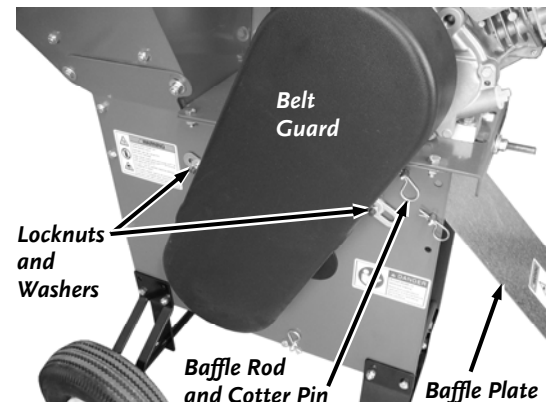

Figure 14
1. Remove the Belt Guard by removing the two Locknuts and four Washers with a 1/2" Wrench (**Figure 14**).
4. Remove the Cotter Pin and Baffle Rod and set the Baffle Plate aside for better access under the Engine (**Figure 14**).